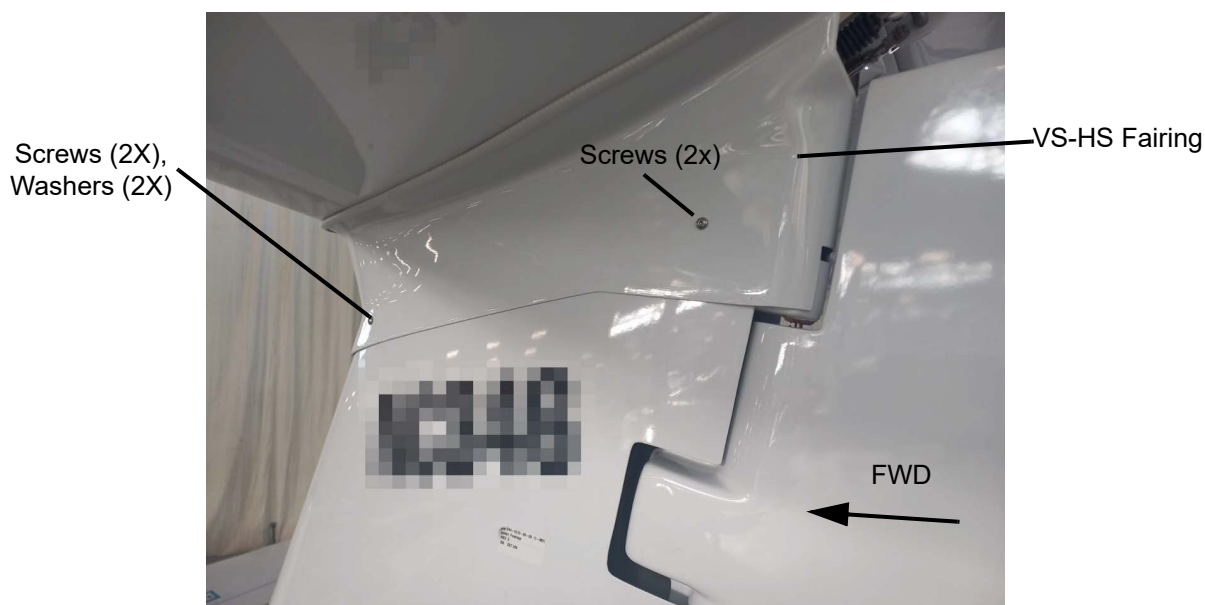

Figure 1. VS-HS fairing removal.
1. Remove the 4 screws and 2 washers which attach the VS-HS fairing. Refer to Figure 1.